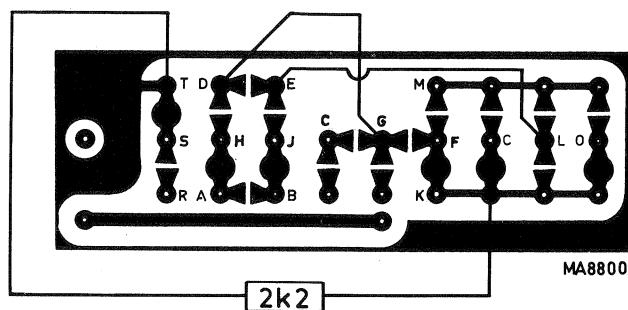

Fig. 7-3 Connection on the selection matrix (Ext. FM)
*More extensive changes are necessary when this potentiometer is used to regulate ext. FM (See Fig. 7-3).